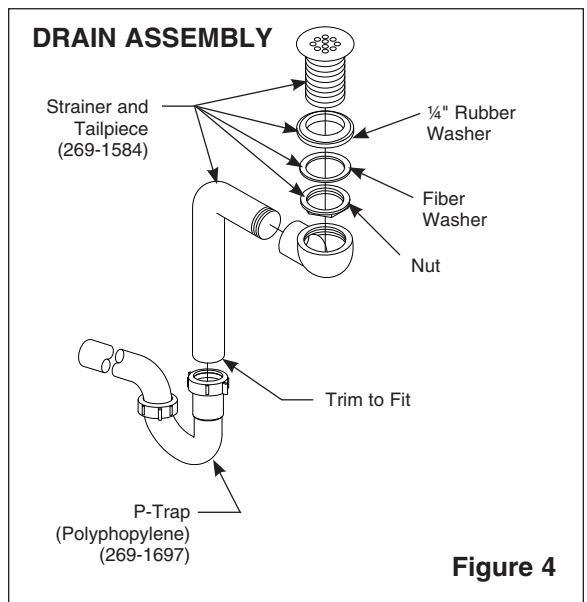

Figure 4
1. Assemble the P-trap by (supplied by installer) connecting the 1½" tubular pipe to the 1¼" tailpiece and to the 1½" drain pipe stubbed out of the wall (see Figure 4).